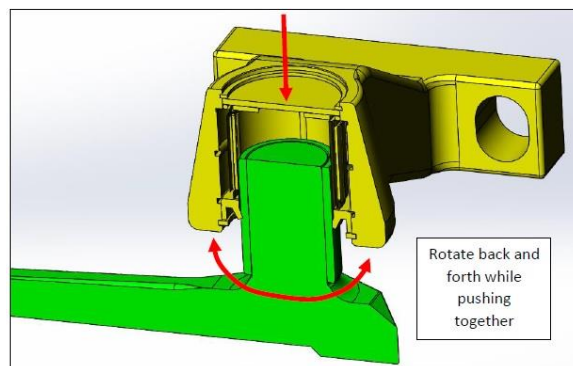

Figure 102
5. At this point once, the seal is on inner race, push the knife head further onto the inner race by hand. DO NOT use a hammer or bench top vise to install knife head onto knife head. At the same time, you are pushing down slightly rotate back and forth to get the rollers aligned onto the inner race. Figure 102
6. Image showing how to install bearing fully onto inner race by rotating back and fore while pushing both together by hand. Figure 102